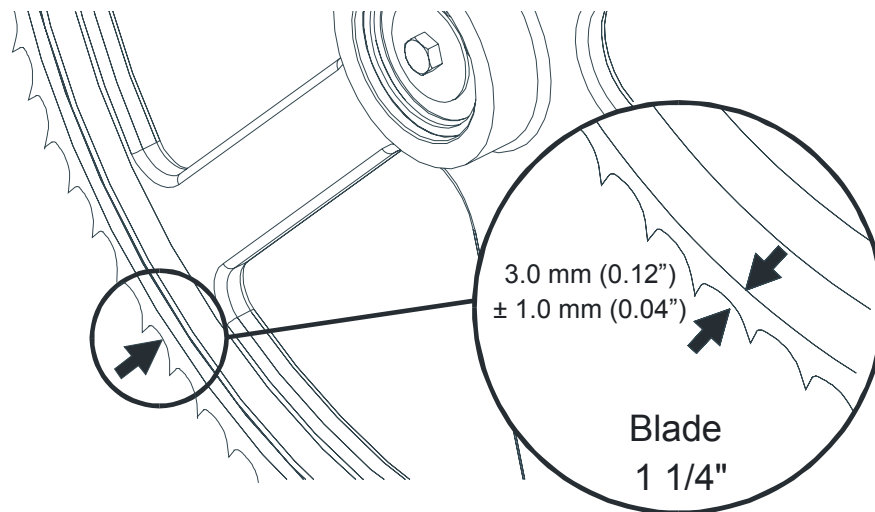

FIG. 3-6
**See Figure 3-6.** Position 1 1/4" wide blade on the wheels so the gullet is 3.0 mm (0.12") ± 1.0 mm (0.04") out from the front edge of the wheel.